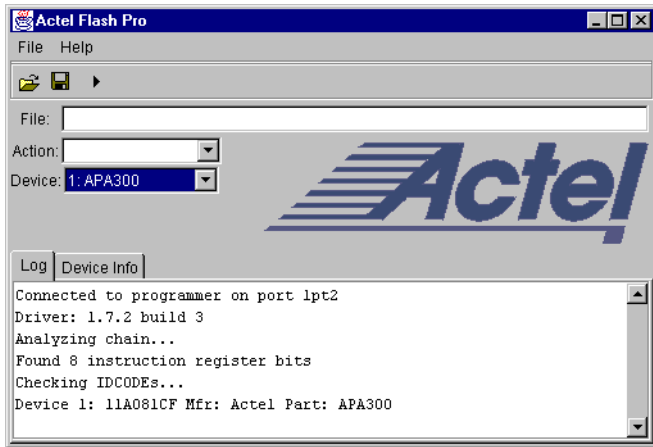

Figure 2-3. Flash Pro: Analyzing Chain
1. **From the File menu, click *Analyze Chain*.** Chain details appear in the Log window, as shown in Figure 2-3. If you encounter any failures, please refer to “Error Messages & Trouble Shooting Tips” on page 41.